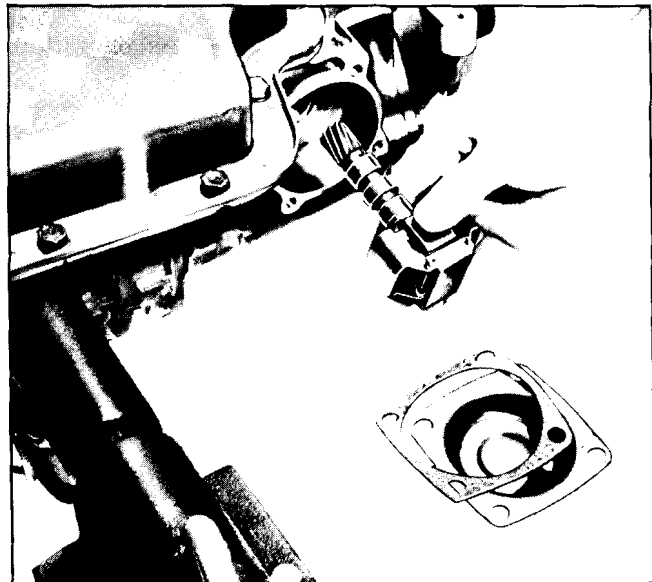

Fig. 7E-215 Installing Governor
3. Install vacuum modulator into case (Fig. 7E-214).